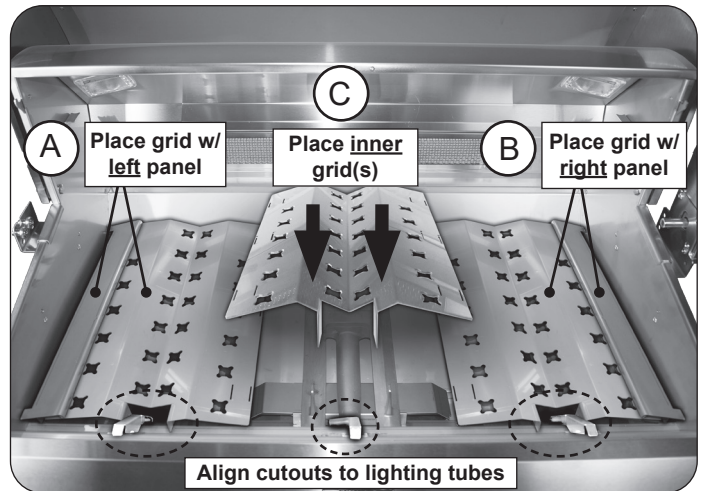

Fig. 24-1 Install flavor grids
Locate the flavor grid with the pre-attached **left panel** (see Fig. 24-1, A).
1. Carefully rest the grid onto the rear and front flavor grid rests while ensuring the flavor grid cutout clears the left-most lighting tube. See Fig. 24-1, A.
2. Locate the flavor grid with the pre-attached **right panel** and place it on the right side of the grill (see Fig. 24-1, B).
3. Take the inner grid(s) and install between the left and right flavor grids (see Fig. 24-1, C).